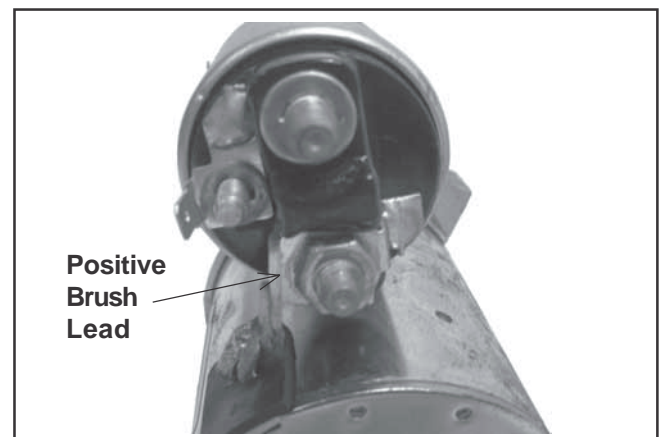

Figure 7-45. Positive (+) Brush Lead Connection.
14. Connect the positive (+) brush lead/bracket to the solenoid and secure with the hex nut. Torque the nut to **8-11 N·m (71-97 in. lb.)**. Do not overtighten. See Figure 7-45.